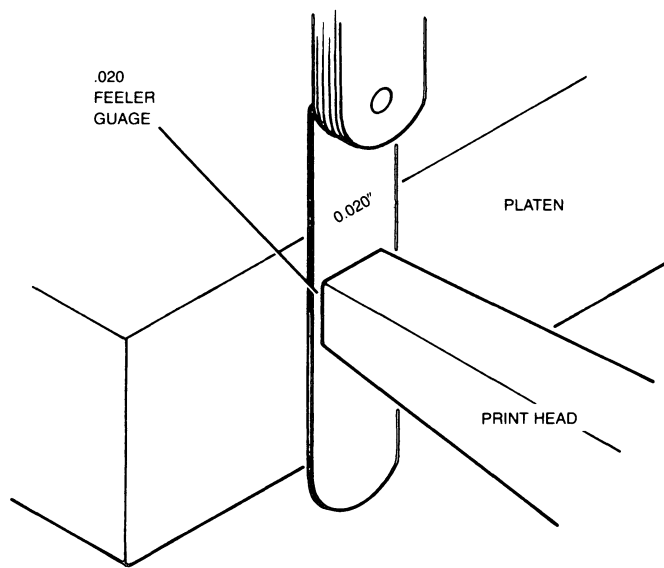

Figure 5.45 Gap Setting
10. Set gap between printhead and platen to $0.020 \pm .002$ inches. Measure the gap using a 0.020 feeler gauge. Adjust the platen by sliding the detent flanges forward or backward (see figure 5.45).